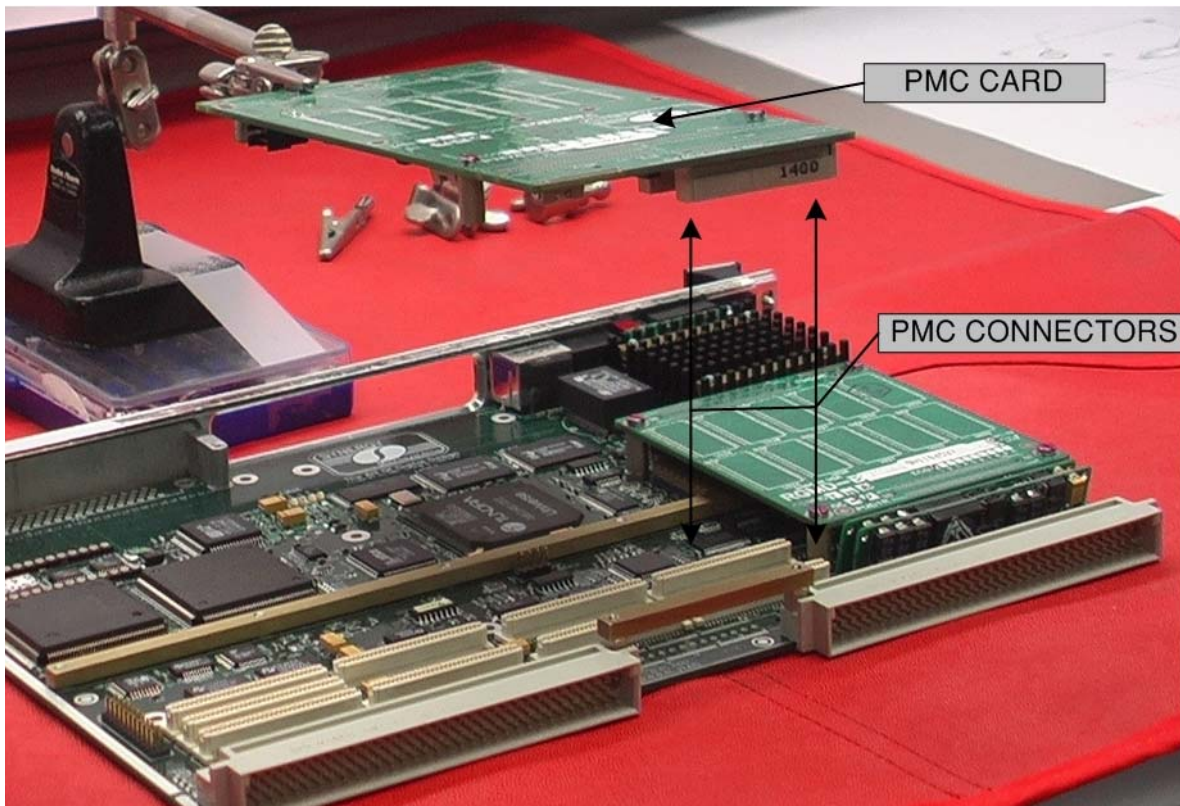

Figure 2. PMC Board Installation Alignment
2. With the component side of the SBC facing up, carefully tilt the PMC up and away from the front panel of the SBC (see Figure 2).